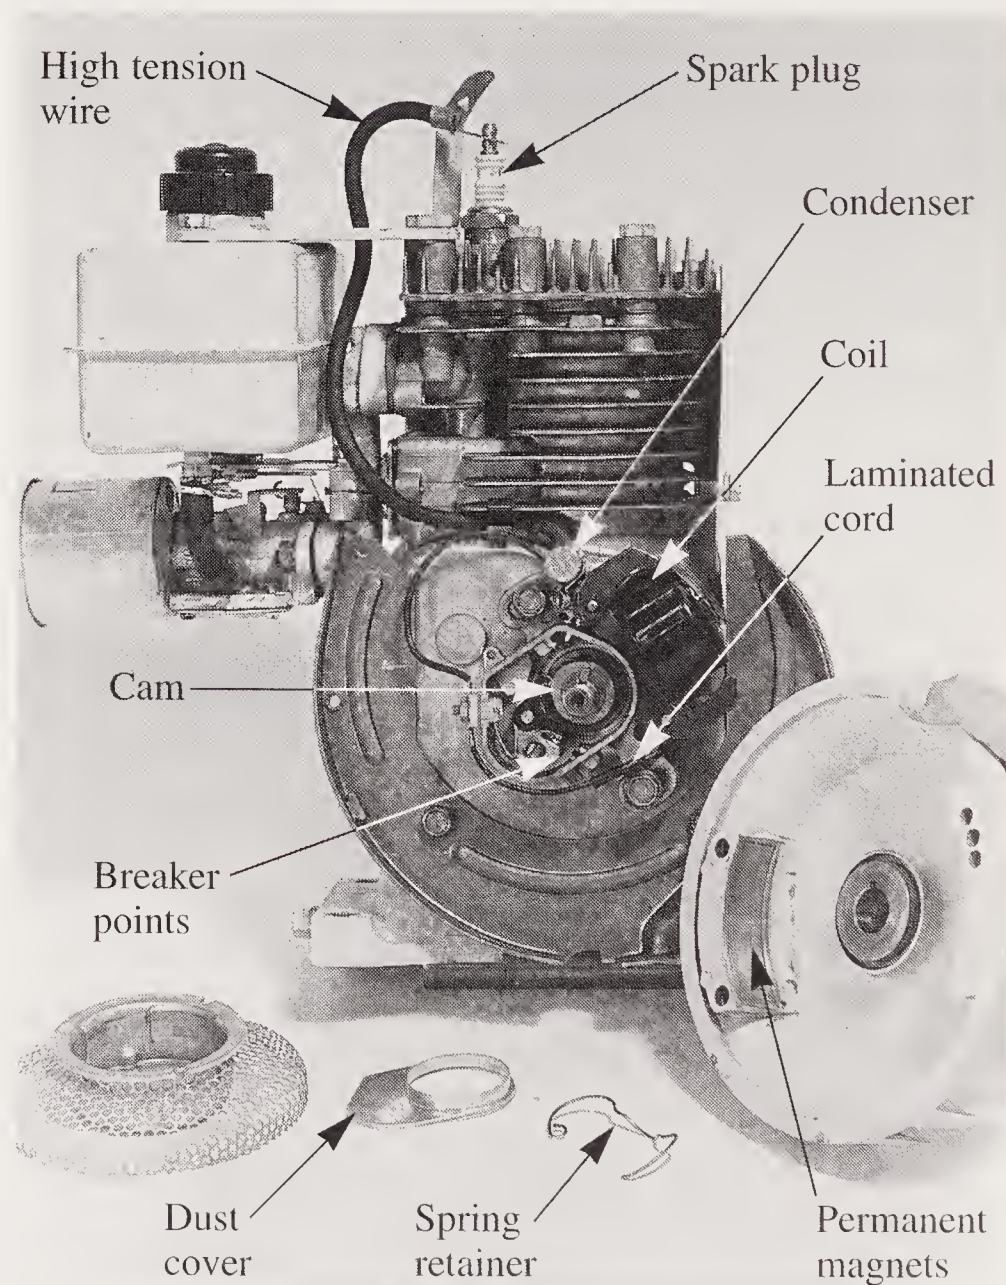
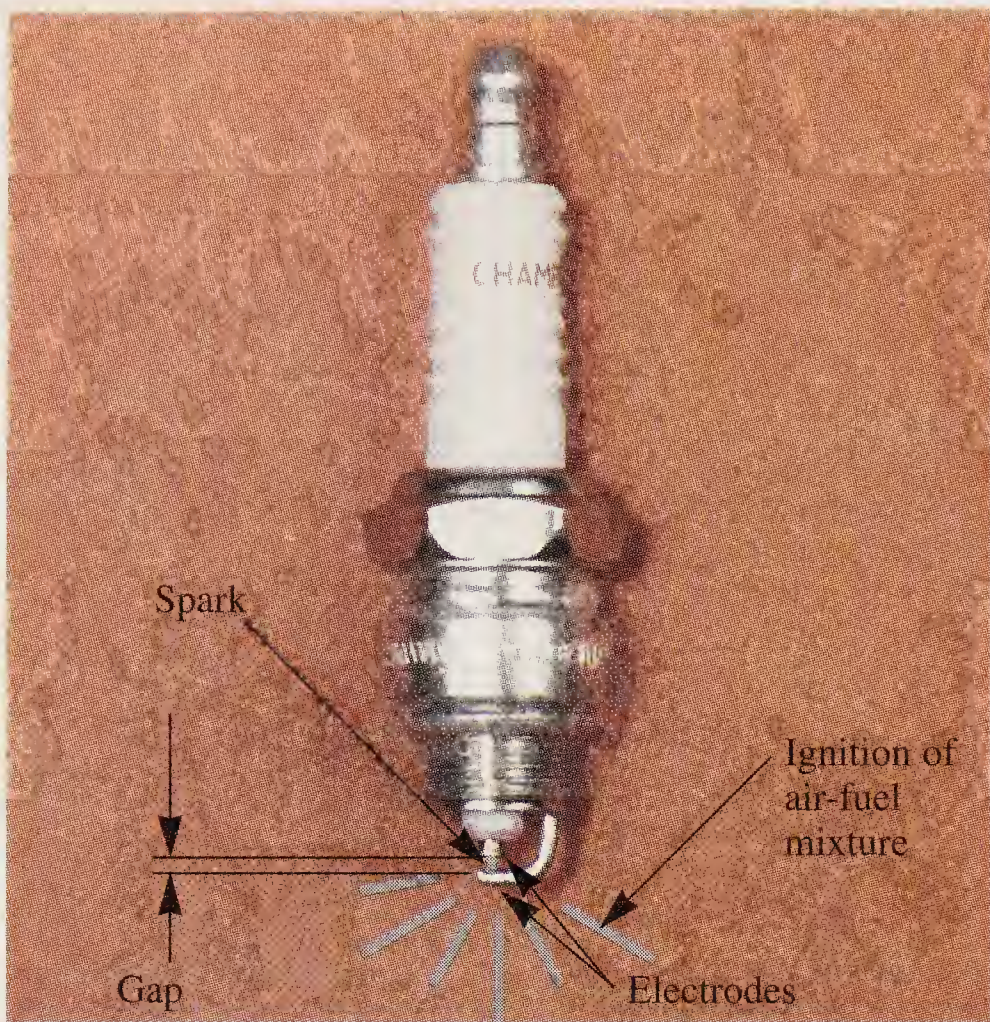

Figure 9-1. The major parts of this small engine magneto system are the breaker points, condenser, coil, flywheel magnets, and the spark plug.
Figure 9-2. Ignition system of small engine works hard to produce enough voltage to force electrons to jump spark plug gap.
The primary purpose of the ignition system, **Figure 9-1**, of a small gasoline engine is to provide sufficient electrical voltage to discharge a spark between the electrodes of the spark plug. See **Figure 9-2**. The spark must occur at exactly the right time to ignite the highly compressed air-fuel mixture in the combustion chamber of the engine.
Most small gasoline engines use magneto systems to supply ignition spark. See **Figure 9-1**. *Magneto systems* produce electrical current for ignition without any outside primary source of electricity. They serve as simple and reliable ignition systems. Basic parts of a magneto system include:
- Spark plug. See **Figures 9-1** and **9-2**.